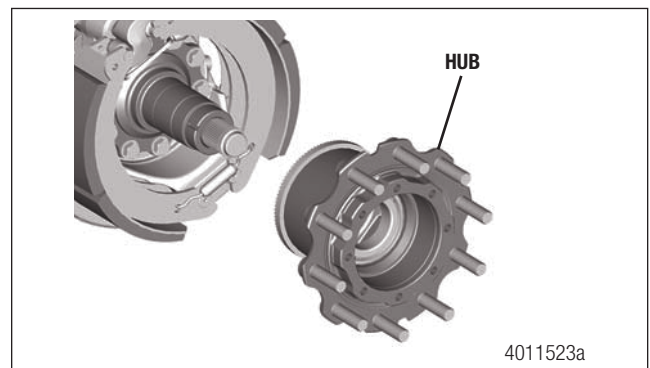

Figure 5.12
9. Remove the hub straight off the spindle. Prevent the outer bearing cone from falling when removing the hub. Figure 5.12.